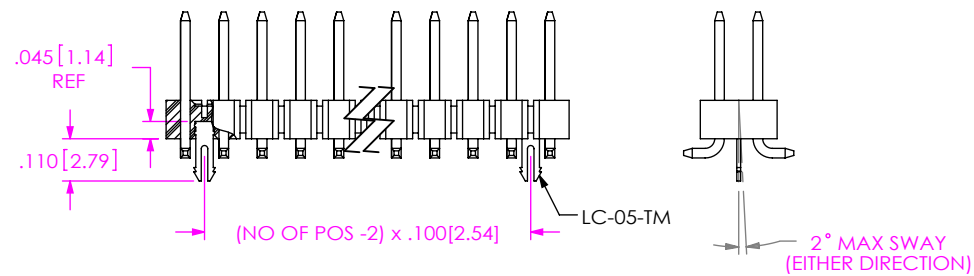

FIG 2
-LC: LOCKING CLIP (SEE FIG 2, SHT 2)